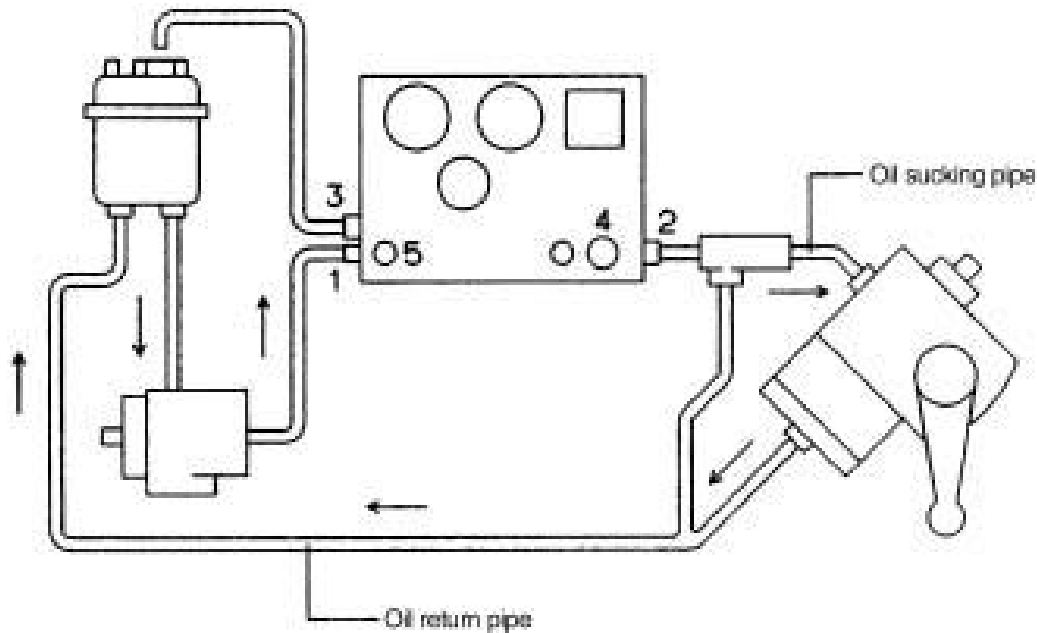
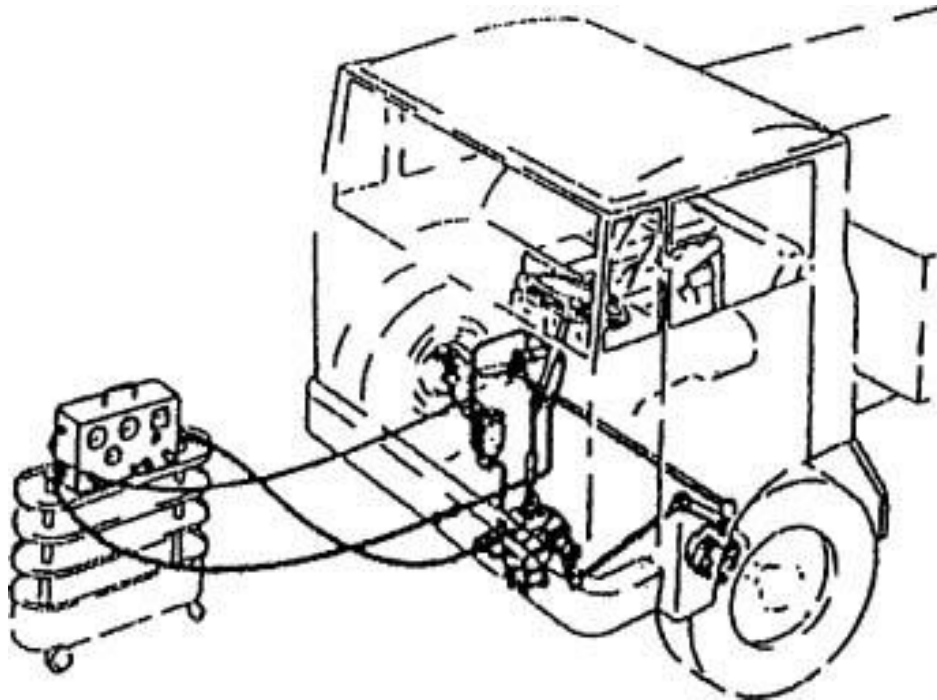

Fig. 11-13 Connection of the steering measuring meter and the boost system
Fig. 11-14 Testing the steering boost system with steering measuring meter
- The maximum pump pressure of the ZF steering boost system is normally 130~150 bar. Referring to Fig. 11-13 and Fig. 11-14, connect the steering measuring meter in series to the pump and steering gear high-pressure side pipelines, and first of all, open the valve of the measuring meter completely. Start the engine, perform this test only when the oil temperature in the boost system reaches 50°C.
- As shown in Fig. 11-14, move the steered wheel close to the limit position, put a piece of steel plate 15 mm thick between the front axle limit projection and the steered wheel limit bolts, and keep a force of 100-200 N on the steering wheel to the “dead” position (the shorter time period to force it “dead”, the better result, within a maximum of 5 seconds).